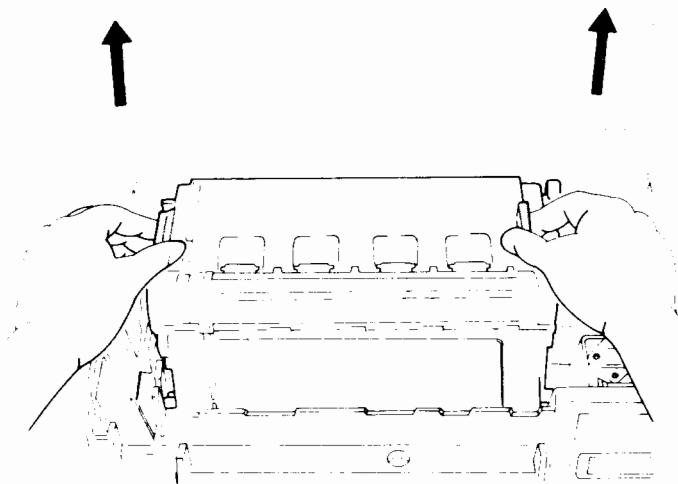

Figure 7-3 Removing the process cartridge
3. Lift the cartridge by the fin-shaped handles, tilting it towards the front of the printer until the top of the cartridge is about at the level of the top of the lower cover. Then move the cartridge towards the rear of the printer and lift it out (see Figure 7-3). The old cartridge can be discarded.